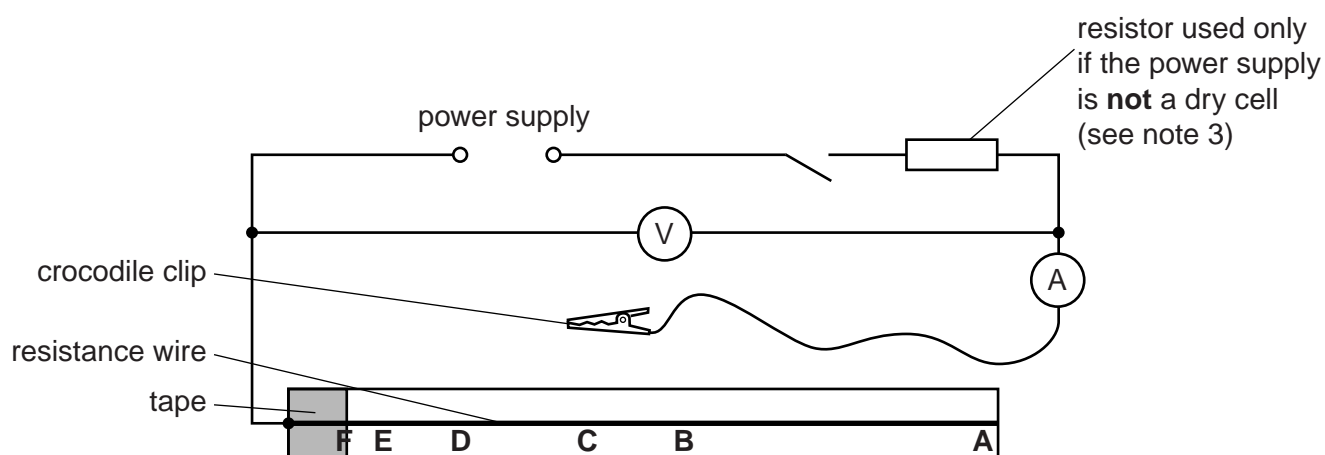

Fig. 3.1
- (vii) Sufficient leads to set up the circuit shown in Fig. 3.1.
1. The circuit is to be set up for candidates as shown in Fig. 3.1. The crocodile clip should **not** be connected to the resistance wire.
3. If the power supply is a power pack or lead acid cell, rather than a dry cell, a $1\ \Omega$, 3 W resistor must be connected in series with the power supply, as shown in Fig. 3.1.